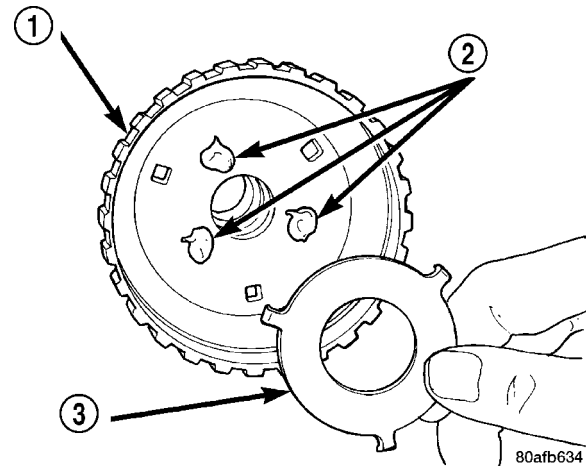

Fig. 276 Install No. 3 Thrust Plate
(40) Install the #3 thrust plate to the bottom of the overdrive shaft assembly. Retain with petrolatum or transmission assembly gel (Fig. 276).